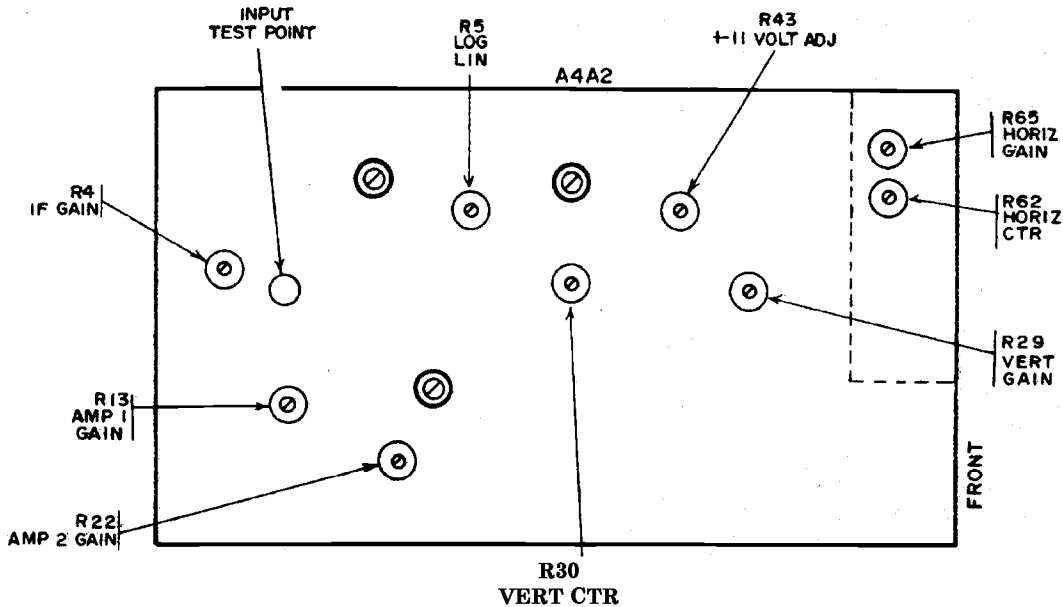

Figure 6. Spectrum analyzer No. 2 - adjustment locations.
- (2) Adjust +11 VOLT ADJ A4A2R43 (fig. 6) for an 11 V indication on multimeter (R).
- (3) Adjust VERT CTR A4A2R30 (fig. 6) until bottom of trace indicates -109 dBm (R).
- (4) Connect oscilloscope to INPUT TEST POINT (fig. 6).
- (5) Adjust signal generator amplitude for -30 dBm.
- (6) Adjust IF GAIN A4A2R4 (fig. 6) for 0.4 V p-p spike on oscilloscope (R).
- (7) Adjust VERT GAIN A4A2R29 (fig. 6) for -30 dBm indication on TI (R).
- (8) If bottom of trace does not indicate -109 dBm, repeat **b** (3) above.
- (9) Adjust signal generator amplitude to -40 dBm.
- (10) Adjust LOG LIN A4A2R5 (fig. 6) for a -40 dBm indication on TI. If a -40 dBm indication cannot be obtained go on to next step (R).
- (11) Adjust signal generator to -30 dBm and repeat **b** (7) through (10) above until no further adjustments are required.
- (12) Adjust signal generator amplitude for -60 dBm.
- (13) Adjust AMP 1 GAIN A4A2R13 (fig. 6) for a -60-dBm indication on TI (R).
- (14) Adjust signal generator amplitude for -90 dBm.
- (15) Adjust AMP 2 GAIN A4A2R22 (fig. 6) for a -90-dBm indication on TI (R).
- (16) Repeat **b** (12) through (15) above until no further adjustments are required.
- (17) Adjust signal generator amplitude for -30 dBm and repeat **b** (7) through (16) until no further adjustments are required.
- (1) Adjust **HORIZ CTR A4A2R62** (fig. 6) until peak of signal is centered on centerline (R).
- (2) Adjust **HORIZ GAIN A4A2R65** (fig. 6) until end of trace is aligned with right edge of bezel.
- (3) Repeat (1) and (2) above until no further adjustments are required.